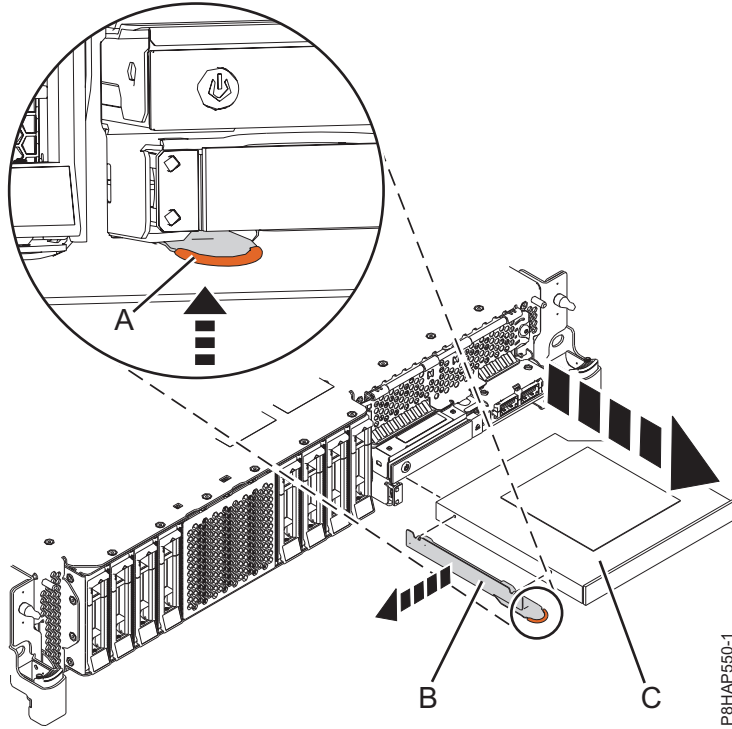
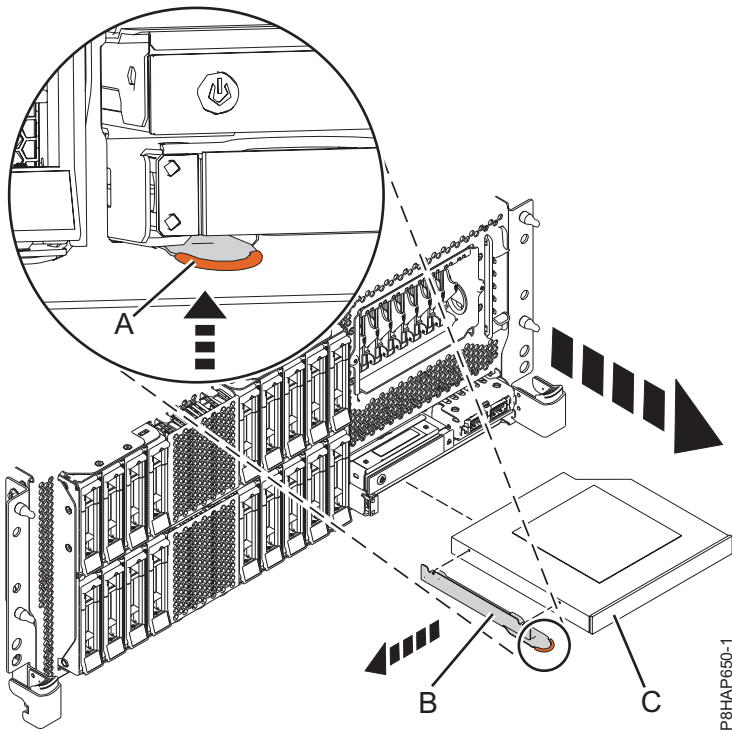
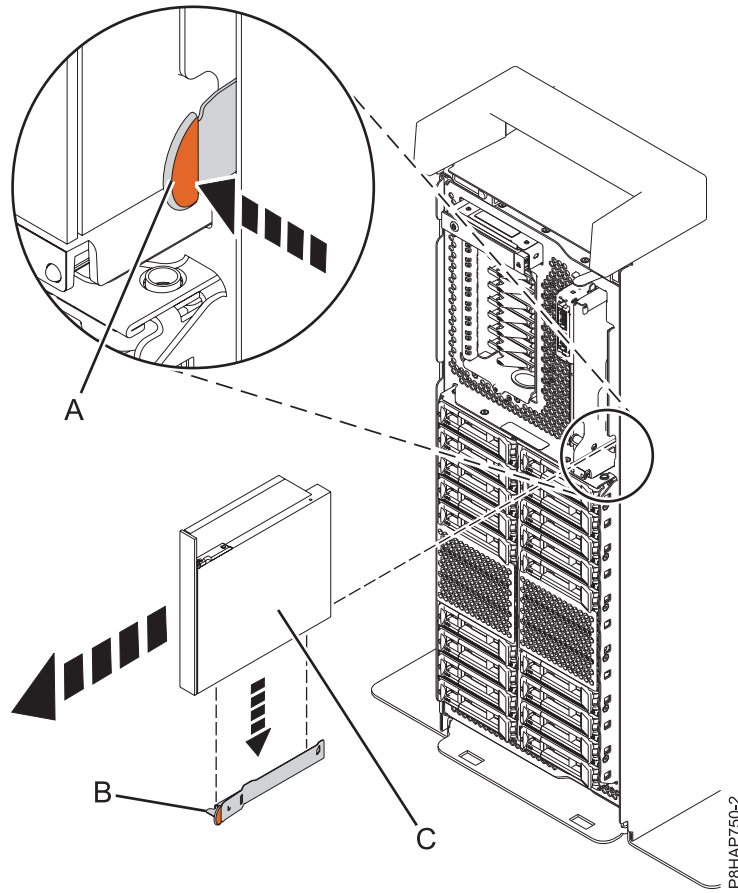

Figure 46. Removing a Slimline media device from an 5148-21L, 5148-22L, 8247-21L, 8247-22L, 8284-21A, or 8284-22A system
Figure 47. Removing a Slimline media device from a rack-mounted 8247-42L, 8286-41A, or 8286-42A system
Figure 48. Removing a Slimline media device from a stand-alone system
For an 5148-21L, 5148-22L, 8247-21L, 8247-22L, 8284-21A, or 8284-22A system, see Figure 46 on page 52, for a rack-mounted 8247-42L, 8286-41A, or 8286-42A system, see Figure 47 on page 52, or for a stand-alone 8286-41A system, see Figure 48 on page 53.
6. Pull the Slimline media device (C) away from the system, in the direction shown in Figure 46 on page 52, Figure 47 on page 52, or Figure 48.
8. If you are removing the Slimline media device as part of another service procedure, do not remove the retaining-bracket (B) from the Slimline media device.
9. If you are removing the failed Slimline media device and replacing with a new Slimline media device, you must remove the retaining-bracket (B) for use with the new media device. Remove the retaining-bracket by holding onto the terracotta touch point and pulling it out of the media device as shown in Figure 46 on page 52, Figure 47 on page 52, or Figure 48.
10. Store the retaining-bracket (B) in a safe place.